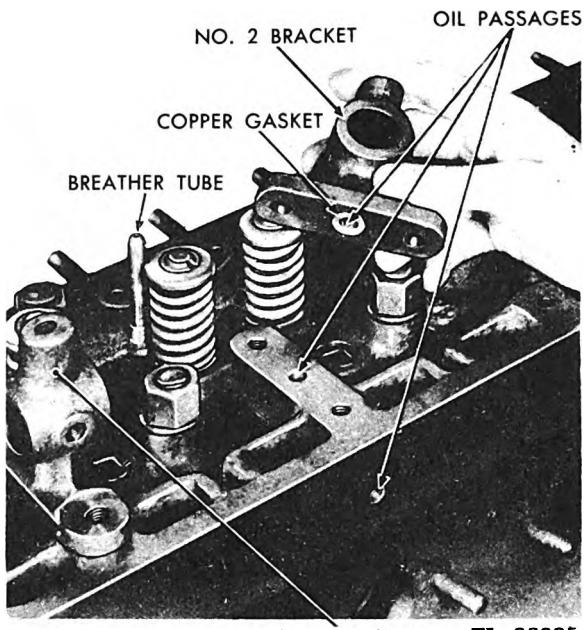
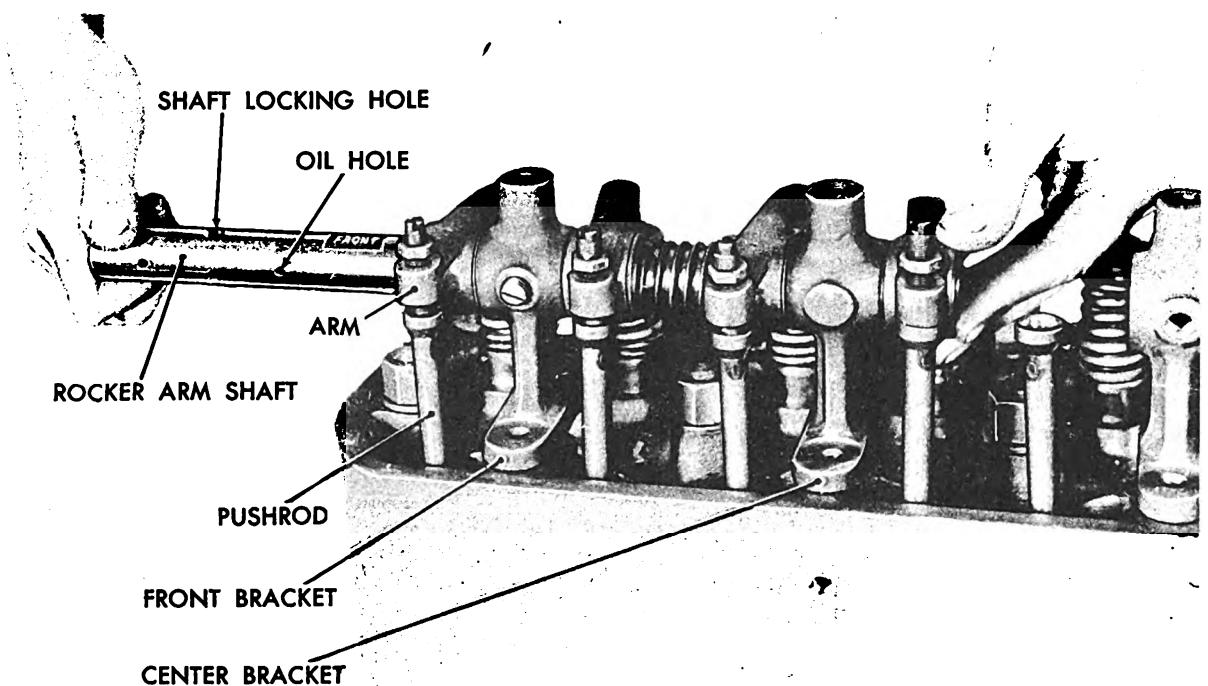
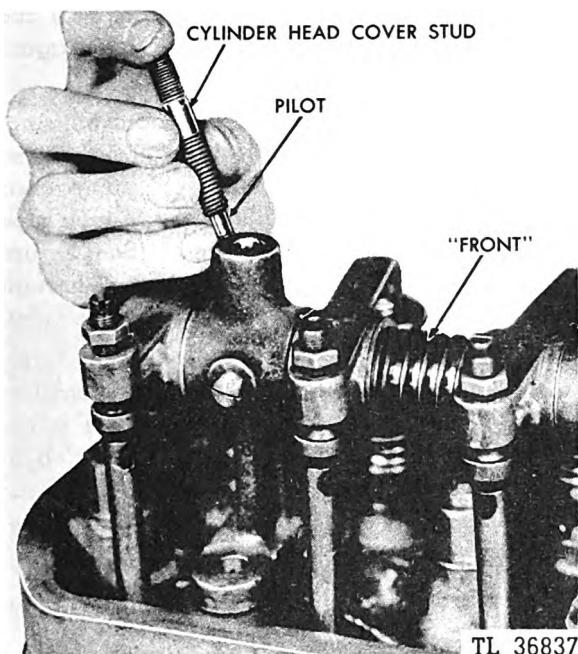

Fig. 183. Installing No. 2 Rocker Arm Bracket
Fig. 184. Installing Rocker Arm Shaft, Brass Washers and Springs
Fig. 185. Installing Cylinder Head Cover Stud
- (2) Set the No. 2 rocker arm bracket on the head, making sure that the copper asbestos gasket is in place in the drilled oil passage in the bracket. (See Figure 183.) Start the capscrew on the spring side of the rocker arm bracket, but do not tighten.
- (3) Install the No. 3 rocker arm bracket in the same manner as (1).
- (4) Install the push rods.
- (5) Install the rocker arm shaft, rocker arms, brass washers and springs as shown in Figure 184.
NOTE: There is a brass washer on each side of the rocker arms and one on each side of the spring. The word "front" is stamped on the front rocker arm shaft. Install the shaft so that the word "front" is visible between No. 2 and No. 3 rocker arms through the spring coil. (See Figure 185.)
NOTE: The pilot hole in the rocker arm is for the cylinder head cover stud pilot. This hole should line up with the tapped hole in the No. 1 bracket. (See Figure 184 and also Figure 185.) Install the cylinder head cover stud.